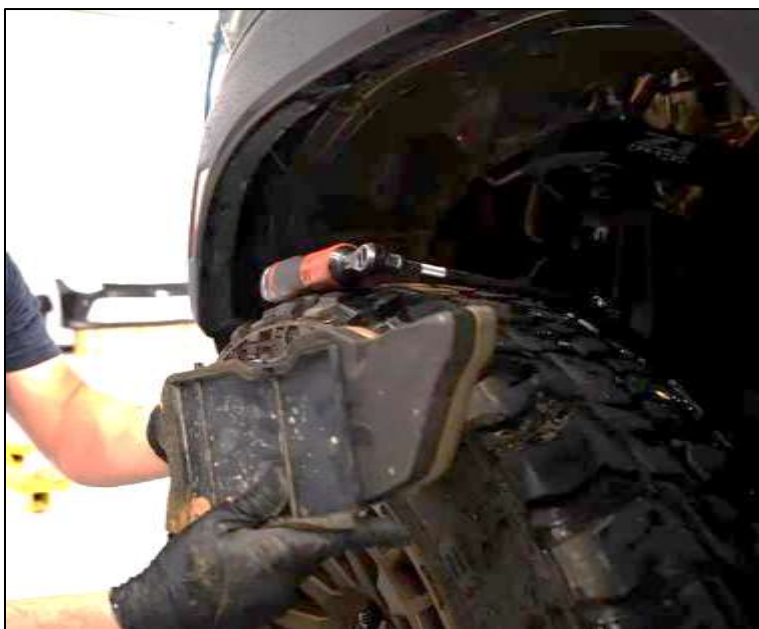

Figure 21
32. Remove the piece of Foam Insulation and the plastic backing from inside the Driver's Side Fender Well. *Figure 21*.